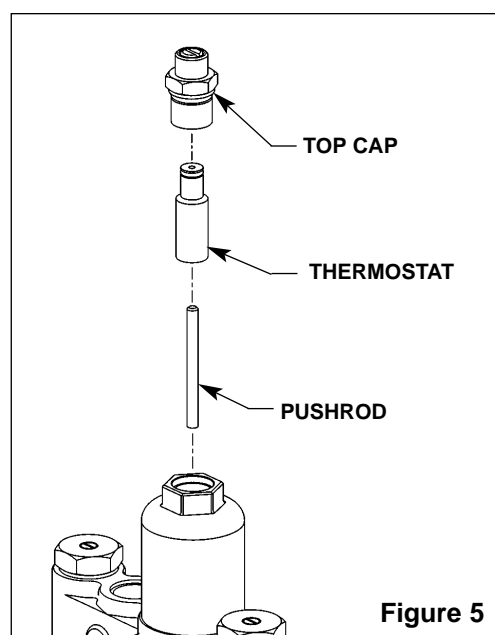

Figure 5
1. Remove the valve's top cap and pull out the thermostat and then the push rod (see Figure 5). You may use a needlenose pliers to remove the thermostat from the valve body if desired.
1. Remove the top cap and pull out the push rod and thermostat (see Figure 5 on page 7).